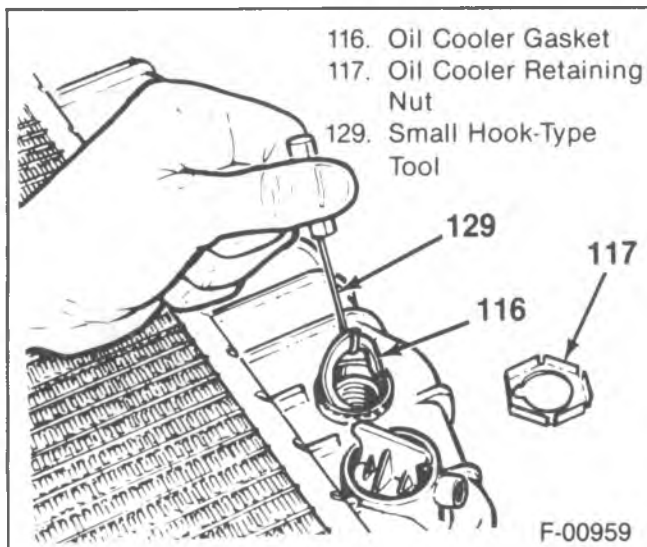

Figure 37—Removing the Oil Cooler Gasket
↔ Remove or Disconnect (Figure 37)
3. Press the oil cooler into the hole and remove the gasket using a small hook (figure 37).
→← Install or Connect (Figure 37)